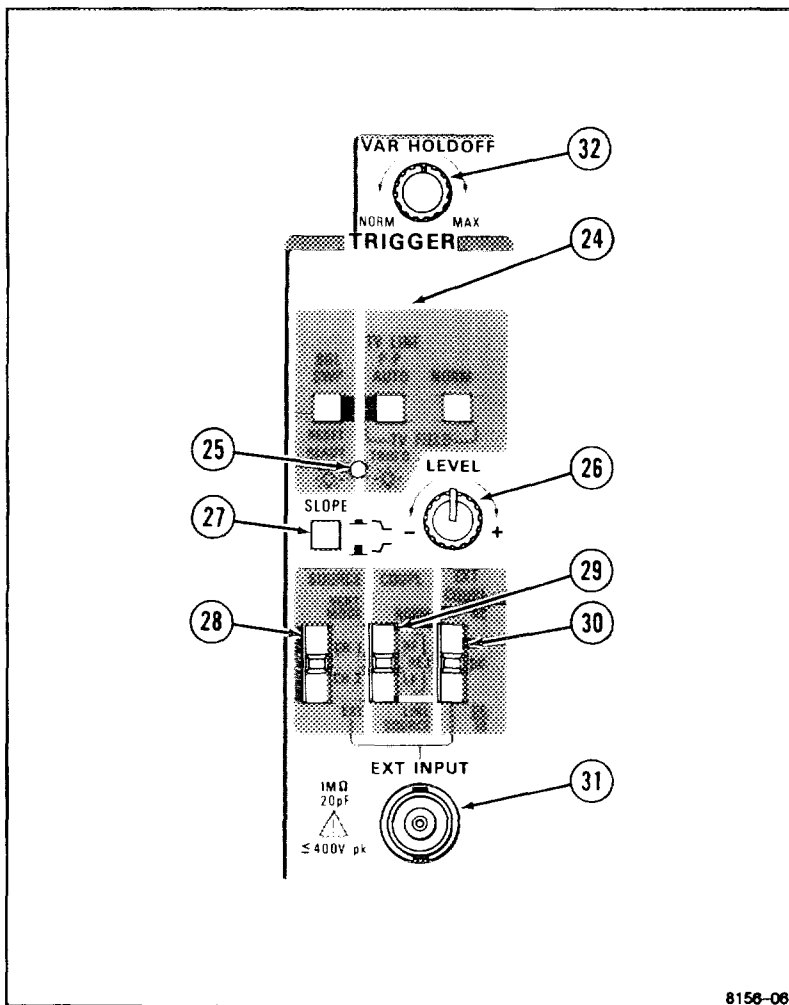

Figure 3-4. Trigger controls, connector, and Indicator.
Refer to Figure 3-4 for location of items 24 through 32.